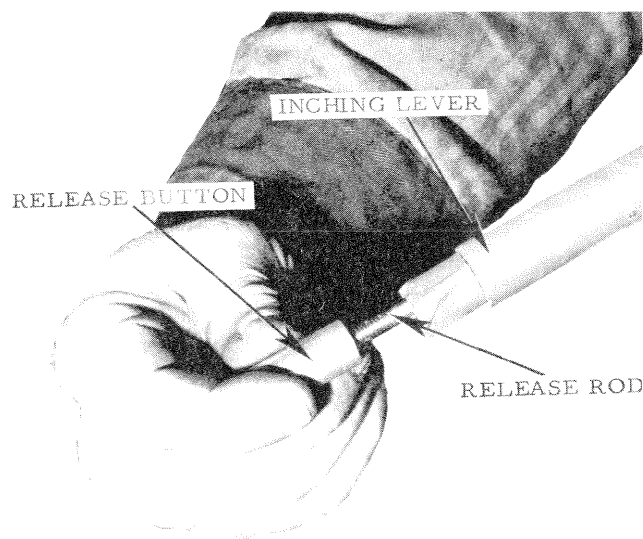

Figure 8
a. Unscrew the release button from the release rod. Fig. 8.